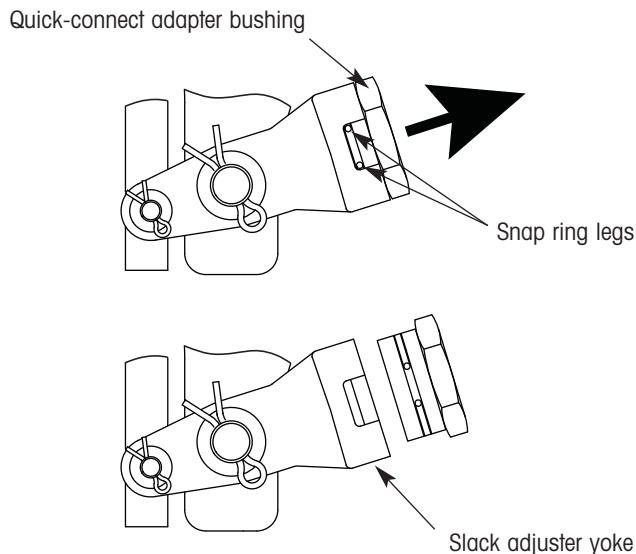

Figure 6. Quick-connect adapter bushing removal details
4. Remove the quick-connect adapter bushing from the slack adjuster yoke by simultaneously squeezing the snap-ring legs and pulling the adapter bushing away from the slack adjuster (figure 6).